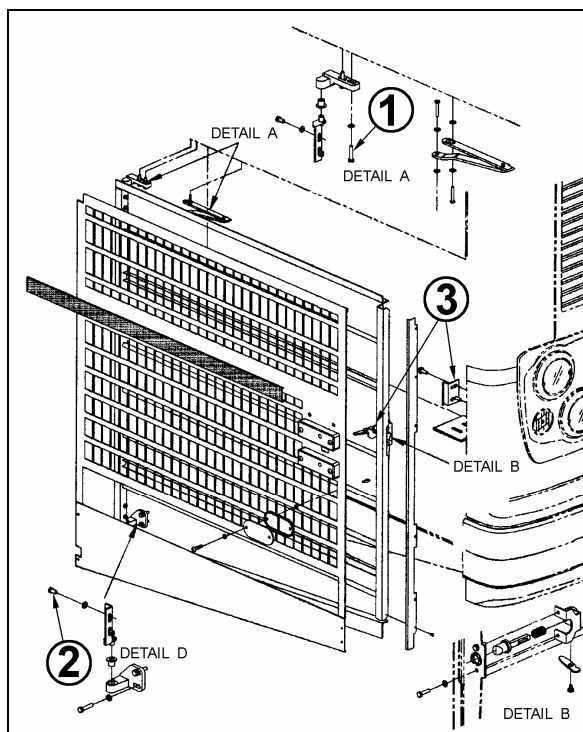

FIGURE 31: RADIATOR DOOR
1. Loosen the bolts, (1, Fig. 31) holding the hinge to the vehicle structure to shift the door "IN or OUT" and "UP or DOWN".
2. Loosening the bolts (2, Fig. 31) allows the door to be shifted "LEFT or RIGHT" and "UP or DOWN".
To adjust the latch mechanism (3, Fig. 31) and the striker pin: